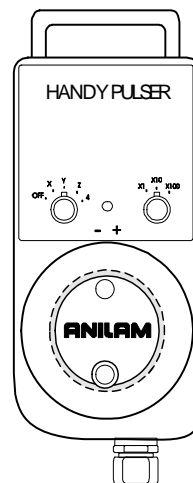

Figure 3-43, Handy Pulser
4. Hang the Handy Pulser on the bracket. Refer to **Figure 3-43**.